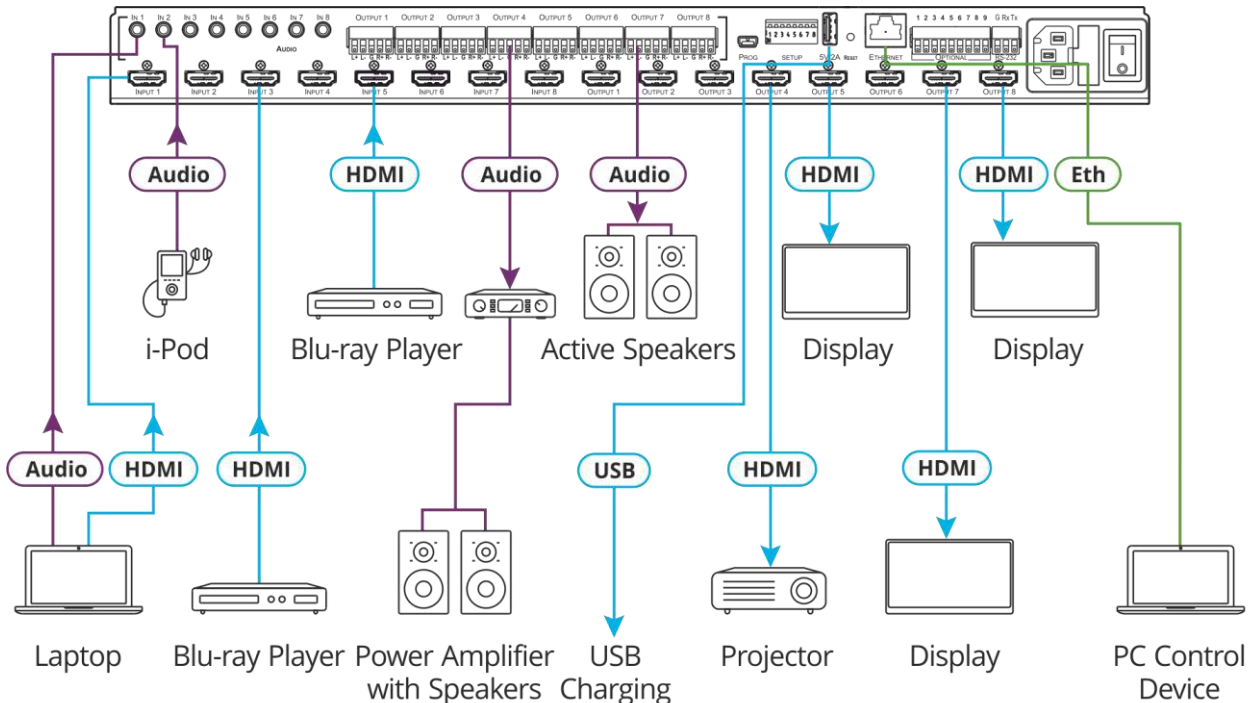

Figure 3: Connecting to the VS-88H2A Rear Panel
To connect VS-88H2A as illustrated in the example in Figure 3:
- The 5V/2A USB port (18) to the USB port of another device to charge it.
- The ETHERNET port (20) to a control device.
- The RS-232 port (22) to a control device (not shown in Figure 3).
6. Connect the power cord to the power connector (23) and to the mains electricity (not shown in Figure 3).